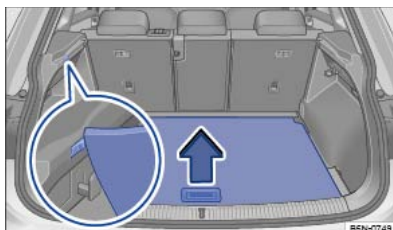

Fig. 182 In the luggage compartment: raising the luggage compartment floor.
- Lift the recessed handle in the luggage compartment floor ⇒ *Fig. 182* and fold the floor upwards in the direction of the arrow until it is held in position by the side restraints (zoomed in) ⇒ *Fig. 182*.